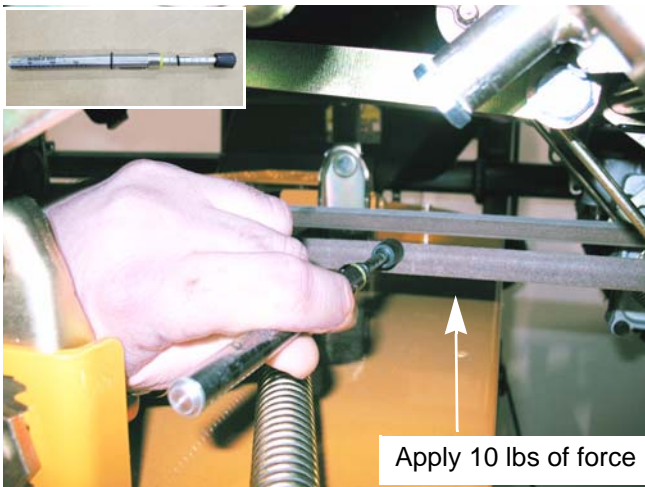

Figure 8.10
2. Apply ten pounds of force to the middle of the belt span. See Figure 8.10.
NOTE: A belt tension checker will make it easier to measure the amount of force being applied. See Figure 8.10. inset.